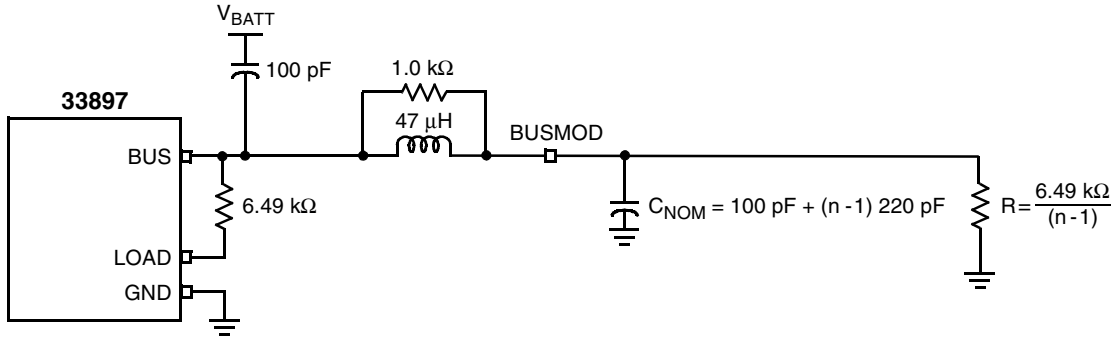

Figure 2. Transmitter Delays in Normal and High-Voltage Wake-up Modes
10.  $V_{BUSMOD}$  is the voltage at the BUSMOD node in Figure 2, page 10.
12.  $V_{BUSMOD}$  is the voltage at the BUSMOD node in Figure 2, page 10.